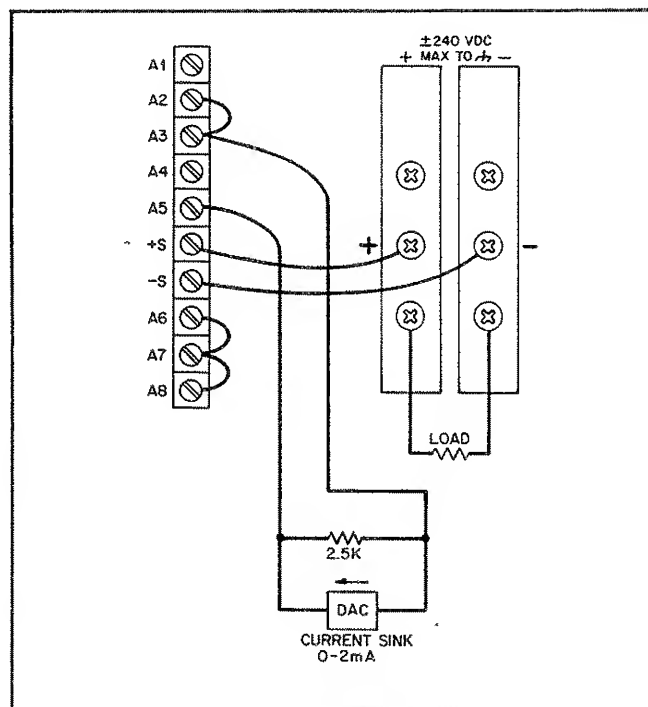

**Figure 3-12. Scaled Voltage Programming of Output Current**
**3-59 Scaled Voltage Programming of Output Current.** The rear-panel connections shown in Figure 3-12 allow the output current to be varied by using an external voltage source of more than 5 volts to program the supply. The discussion in Paragraphs 3-54 and 3-55 for constant voltage operation also applies for constant current operation.